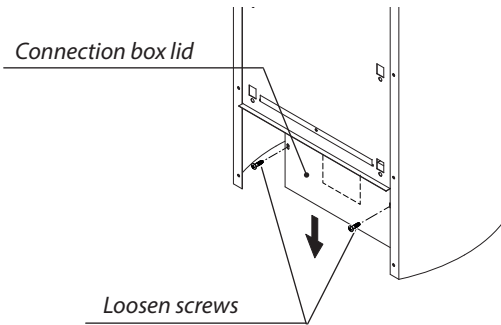

Fig. 6
- Open the rear lid of the connection box (release 2 screws) as shown in Fig. 6 and remove the lid downwards.